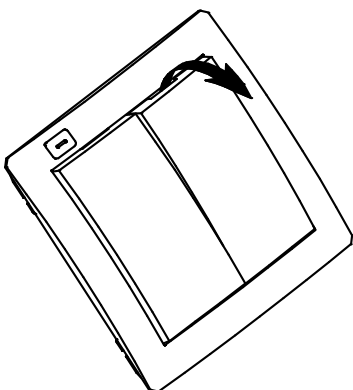

fig. 1
1. Disconnect the key(s) (fig. 1).